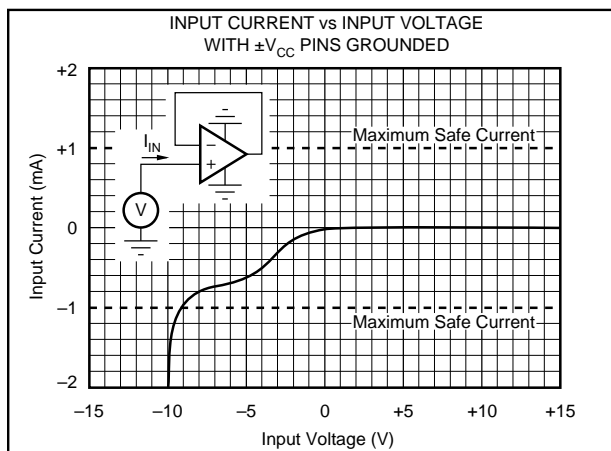

FIGURE 2. Input Current vs Input Voltage with  $\pm V_{CC}$  Pins Grounded.
NOTES: (1) Packages must be derated based on  $\theta_{JC} = 30^\circ\text{C/W}$  or  $\theta_{JA} = 120^\circ\text{C/W}$ . (2) For supply voltages less than  $\pm 18\text{VDC}$  the absolute maximum input voltage is equal to:  $18\text{V} > V_{IN} > -V_{CC} - 8\text{V}$ . See Figure 2. (3) Short circuit may be to power supply common only. Rating applies to +25°C ambient. Observe dissipation limit and  $T_J$ .
Unlike BIFET amplifiers, the *Difet* OPA404 requires input current limiting resistors only if its input voltage is greater than 8 volts more negative than  $-V_{CC}$ . A  $10k\Omega$  series resistor will limit the input current to a safe value with up to  $\pm 15V$  input levels even if both supply voltages are lost. (See Figure 2 and Absolute Maximum Ratings).